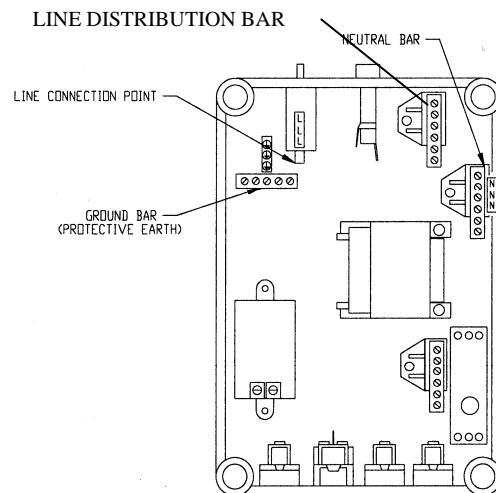

Figure 6
- c. Connect the line wire to the line distribution bar located in the upper right corner of the tub's electrical box. It will have only black wires connected to it. See **Figure 6**.